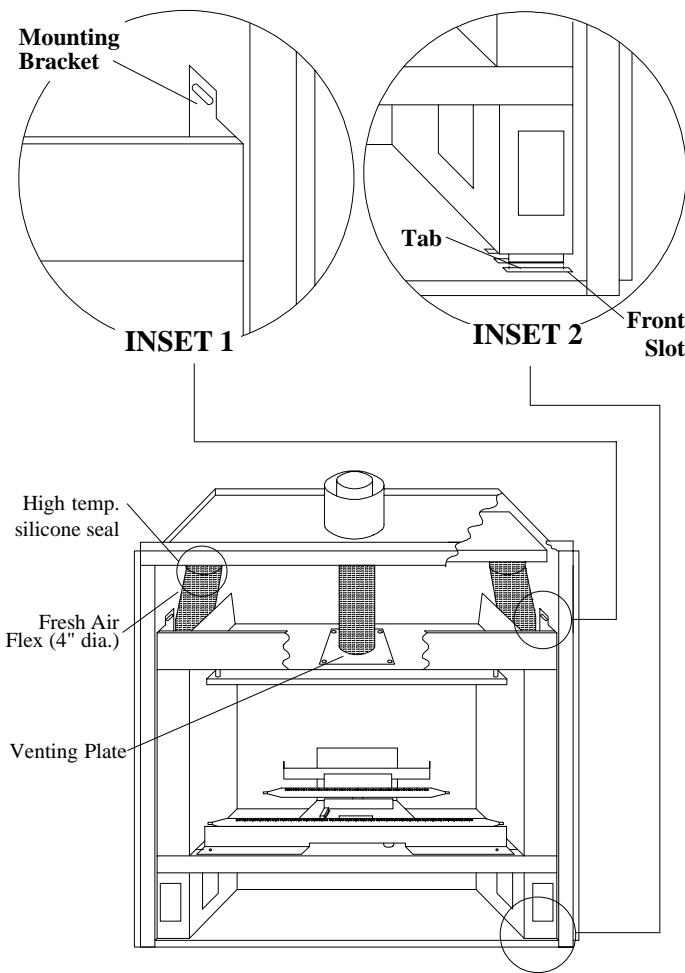

Figure 25. MD34-DV-2 insert.
2. Remove the fresh air flex from the collars on the shell. See *Figure 25*. **Important: Be careful not to damage the fresh air flex during removal or storage.**